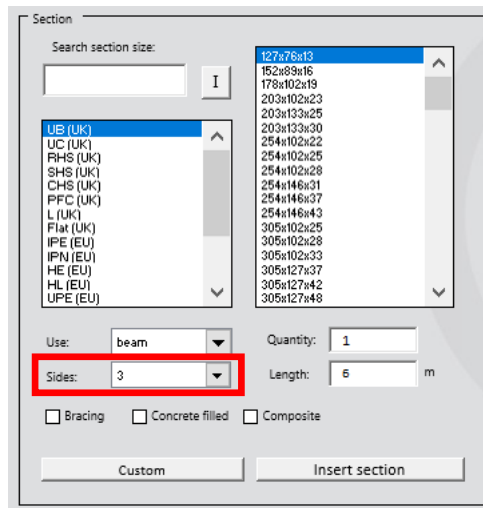

Figure 62: Selecting the exposed sides of the member
The number of sides exposed to fire determines the section factor of the section and determines the surface area for applied passive fire protection. The drop-down option highlighted in Figure 62. Quantifire will automatically try to determine the number of sides based on section type and its use. For example, a UB(UK) being used as a beam will default to 3 -sides. Alternatively, a UC(UK) being used as column will default to 4-sides.